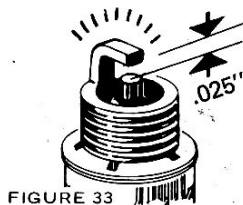

FIGURE 33
3. **SPARK PLUG:** Periodically (or if hard starting and/or ignition misfire is experienced) remove and clean or replace. Sand blast is not recommended as a means of cleaning - scraping of carbon deposits is preferred. See Figure 33.